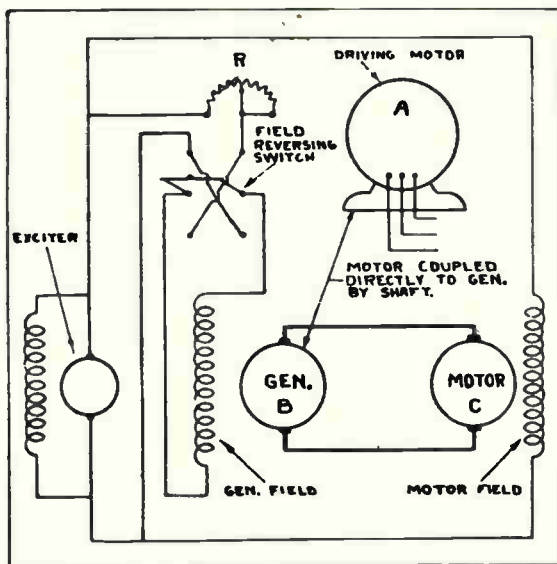

Fig. 16-23
With constant voltage applied to the field, the speed of a d-c motor varies directly with the armature voltage; therefore, such a motor may be steplessly varied from zero to maximum operating speed by increasing the voltage applied to its armature. Fig. 16-23 shows the arrangement of machines and the connections used in the Ward Leonard type of variable voltage control designed to change speed and reverse rotation. The constant speed d-c generator (B) is usually driven by an a-c motor (A) and its voltage is controlled by means of rheostat R. Note that the fields of both generator (B) and driving motor (C) are energized by an auxiliary exciter driven off the generator shaft. Thus the strength of the motor field is held constant, while the generator field may be varied widely by rheostat R.